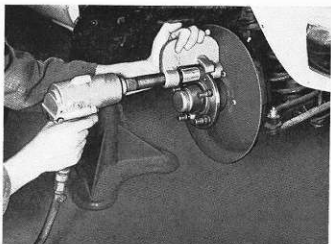

Fig. 7-18. Fitting wheel stud
6. Place the tool in position (see Fig. 7-18) and use a nut runner to screw in the stud completely.